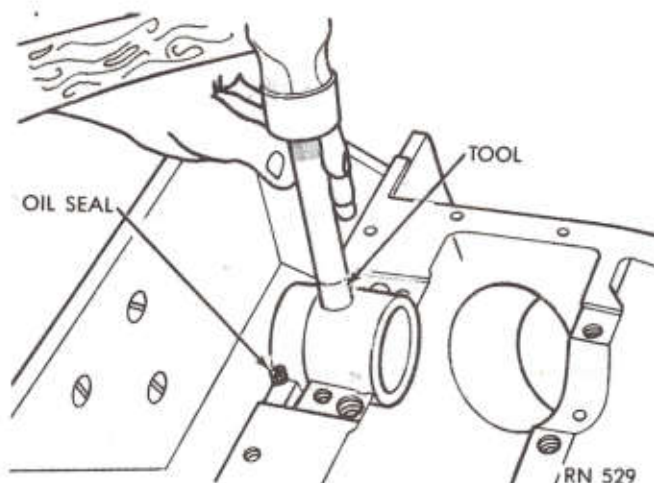

Fig. 48—Installing Upper (and Lower) Oil Seal with Tool C-3511
(1) Install a new rear bearing oil seal in the cylinder block so that both ends protrude.
(2) Using Tool C-3511, tap seal down into position until tool is seated in bearing bore (Fig. 48).